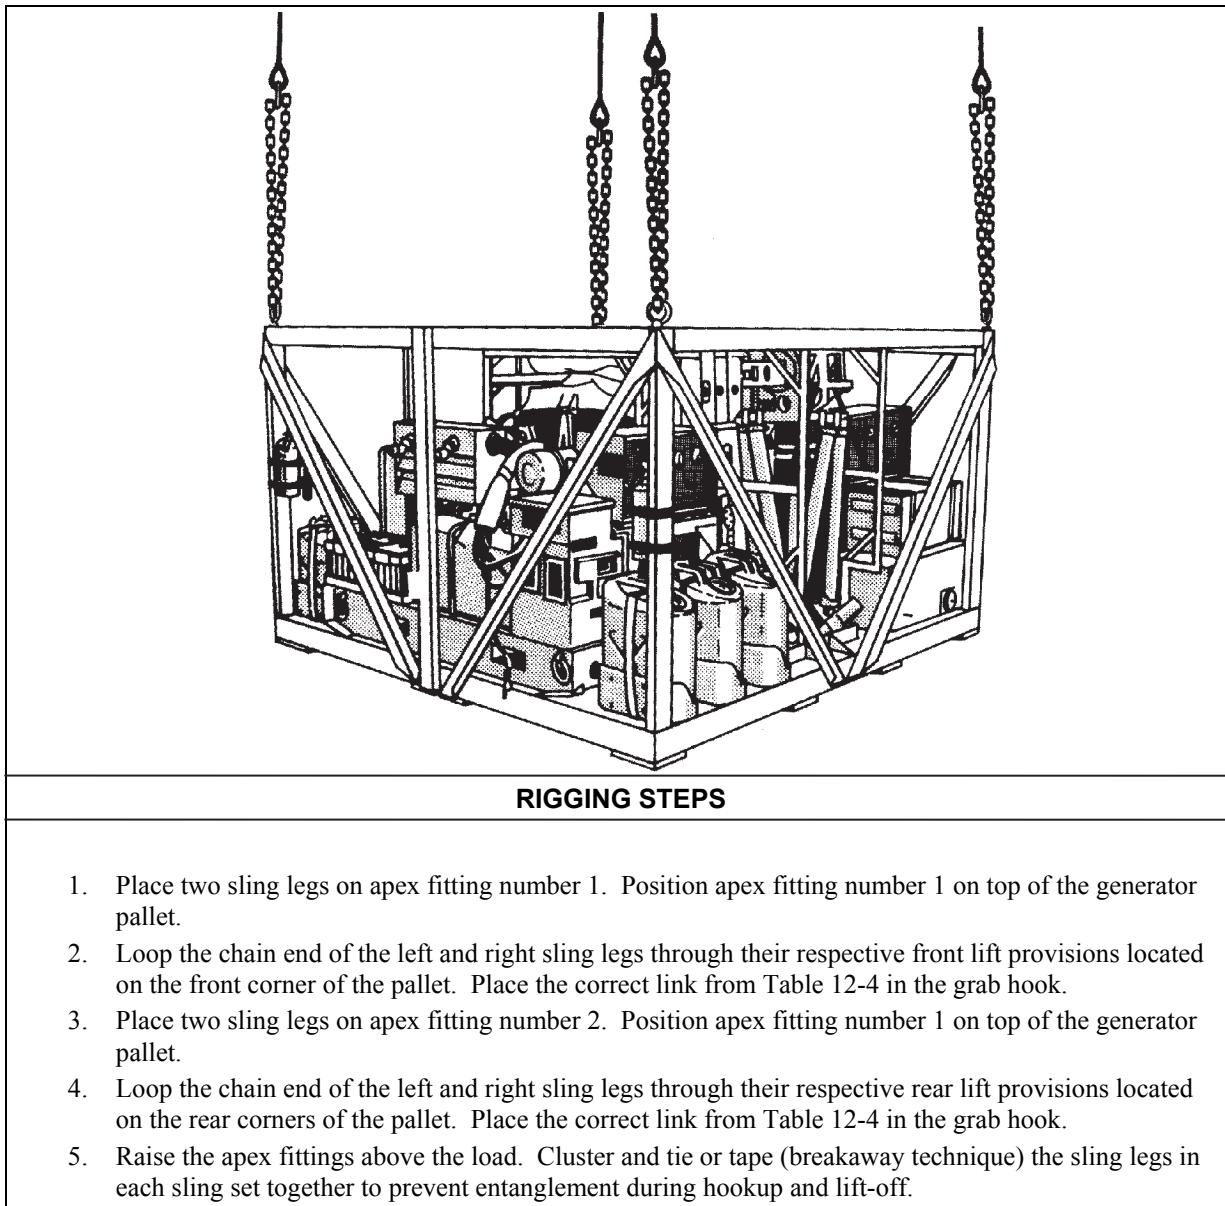

Figure 12-4. Lightweight Generator Frame Assembly
- **Rigging.** Rig the load according to the steps in Figure 12-4.